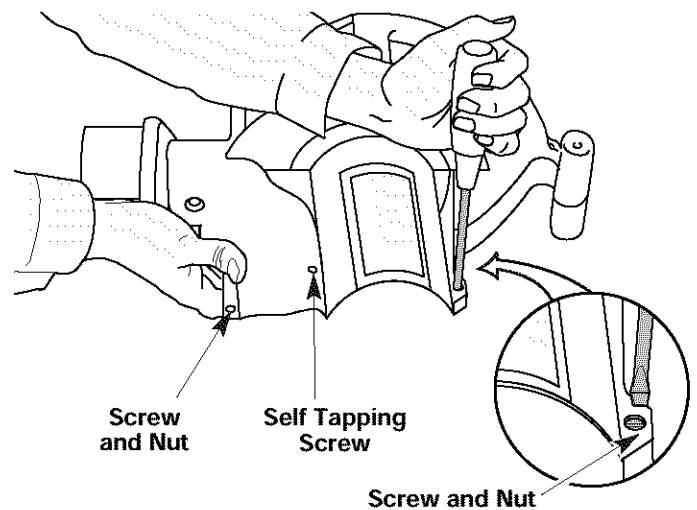

Fig. 2
2. Remove the 2 (two) screws and nuts holding the blower/vacuum tube on the housing (Fig. 2).